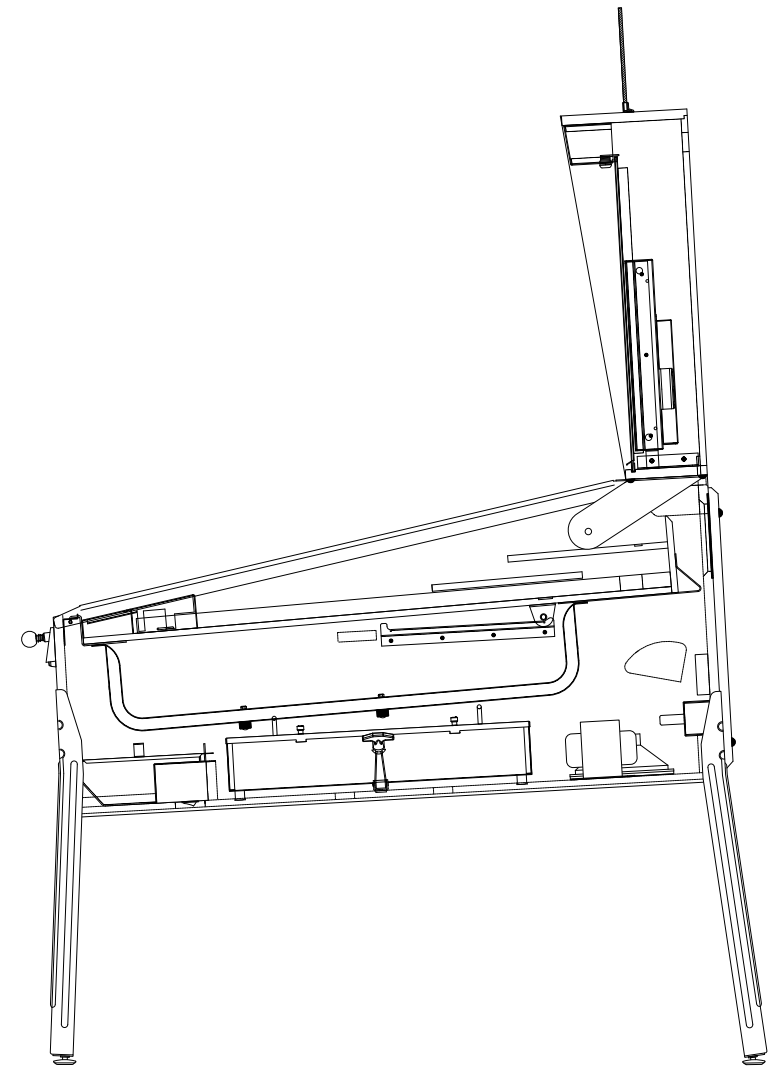

Figure 11. Playfield in the game play position.
13) Your Jersey Jack Pinball® playfield is designed to rest in four distinct positions in its cabinet for game play, cleaning and maintenance. Figure 11 shows the playfield in its standard position.